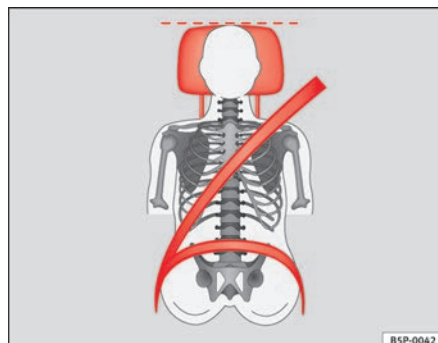
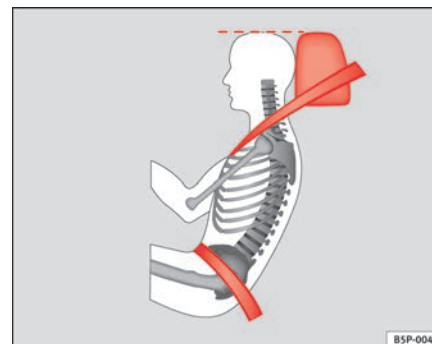

Fig. 83 Front view: head restraints and seat belts correctly adjusted
Fig. 84 Side view: head restraints and seat belts correctly adjusted
- Adjust the head restraint so that its upper edge is at the same level as the top of your head ⇒ fig. 83 and ⇒ fig. 84.